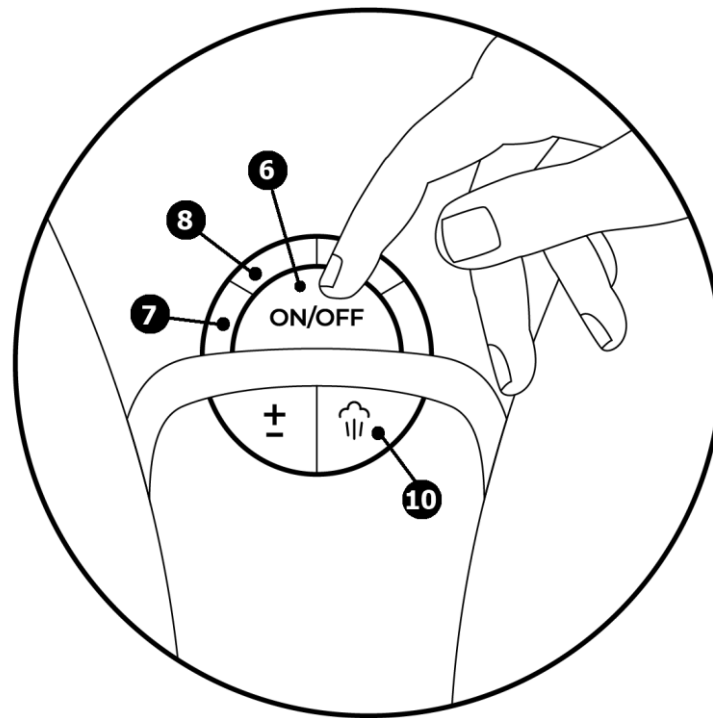

Figure 14 – Pressing the ON/OFF button
5. When you have finished steaming all your items, press and hold the ON/OFF button (6) for 3 seconds (see fig. 14) to turn off the device. When the blue standby light (7) (see fig. 14) goes out, unplug the device from the mains.
The device can continuously generate steam until it has used up all the water in the tank. This amounts to about 9–16 minutes, depending on the operating mode. If the water in the tank runs out, turn off the device by holding the "ON/OFF" button (6) for 3 seconds (see fig. 14). Wait until the steaming head has cooled down, remove the tank and add water to it according to point 2.2 "Preparing the steamer for operation".